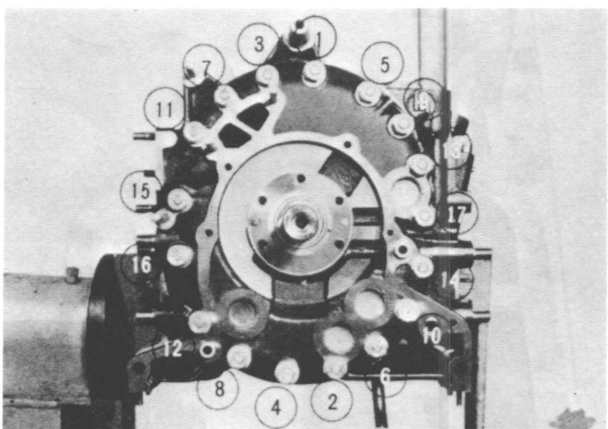

Fig. 1-24 Loosening order
17. Loosen the tension bolts in the reverse order of tightening, as shown in Fig. 1-24.